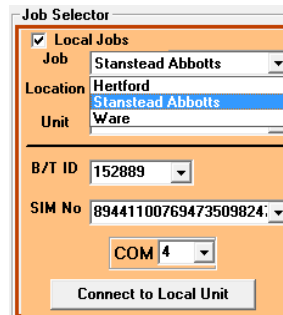

Figure 7.7 Job selector - ii
- Job: The location of last job where the unit was used is, in this example Hertford. To change it, scroll down the list until the required location is highlighted in a blue background (Figure 7.7 shows Stanstead Abbots). A left click on will select it.